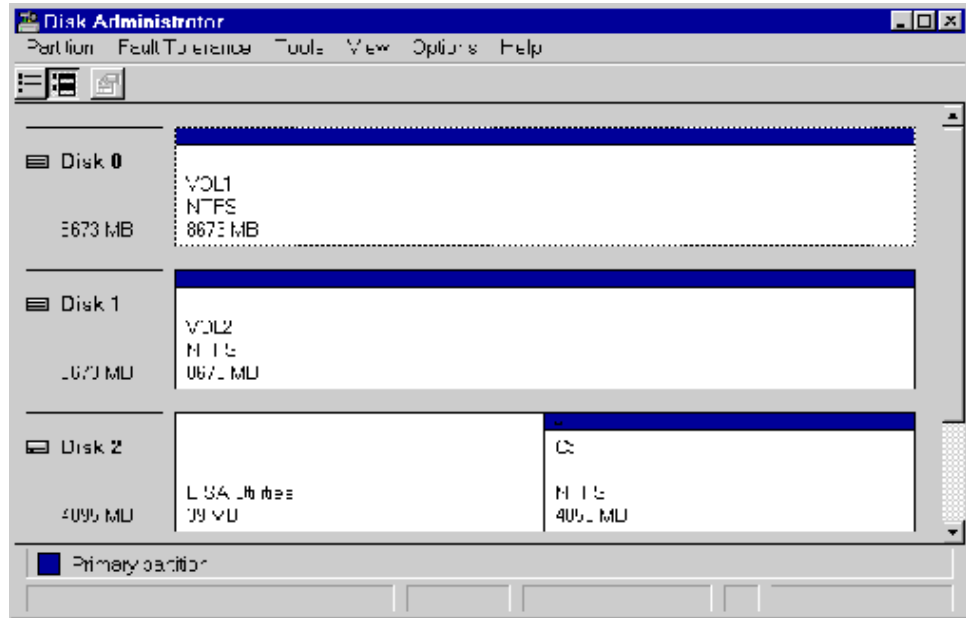

Figure 64: Partition Appearance - (post HszDisk driver installation)
1. Start the Disk Administrator which displays all the existing partitions, similar to the window shown in Figure 64. (The only partitions with drive letters are the boot partition and any non-disk devices, such as a CD-ROM drive).